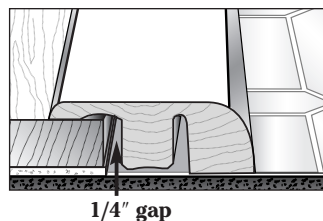

Fig. 29
3. Install the Laminate floor up to the Track System using Armstrong Spacers to obtain a 1/4" (6.35 mm) expansion zone (Fig. 29).